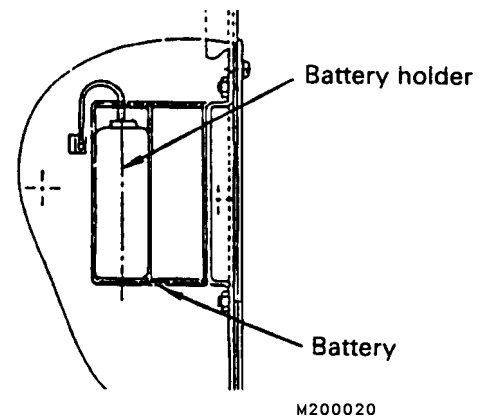

FIGURE 6-9. BATTERY INSTALLATION
5. Grasp the wires coming from the battery and pull out. By pulling perpendicular from the board, it will disconnect the connector from the board and pull the battery out of its holder all at the same time (Figure 6-9).